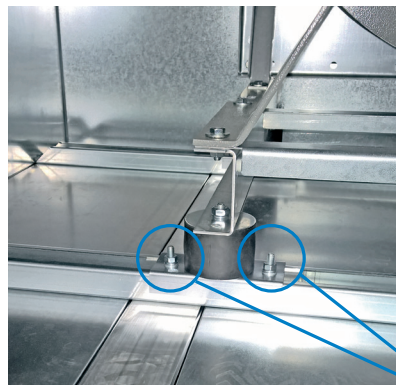
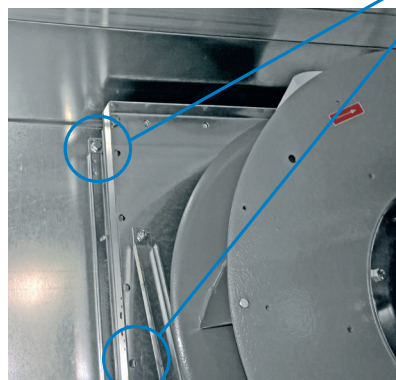

Figure 4
Figure 5
- In case of fan replacement, or cleaning and disinfection, remove the fan from the housing by loosening the bolts on the rails, using a wrench – see Figure 4 - and loosen the bolts for fixing of the flexible connection – see Figure 5.